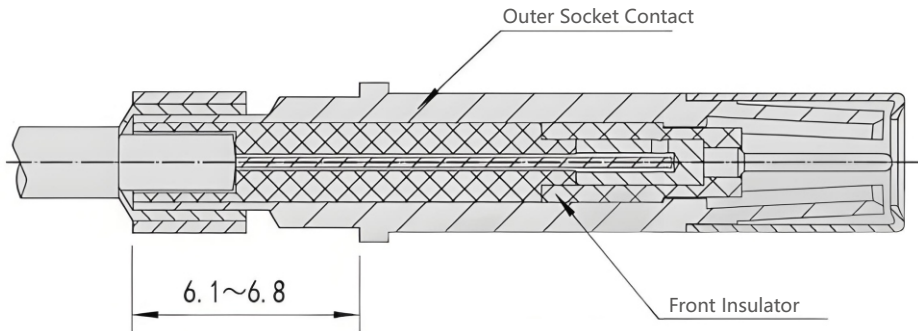

Figure 2.8
③As shown in Figure 2.8, proceed as follows: